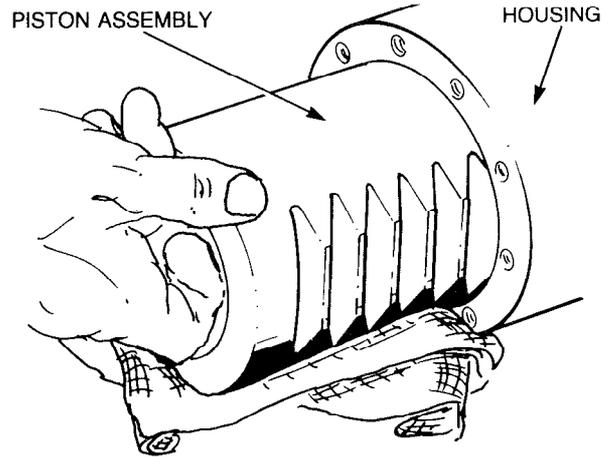

Figure 300 — Piston — Removal
- f. Carefully, slide the piston from the bore of the housing (see Fig. 300), then remove and discard the piston rings and the O-rings.